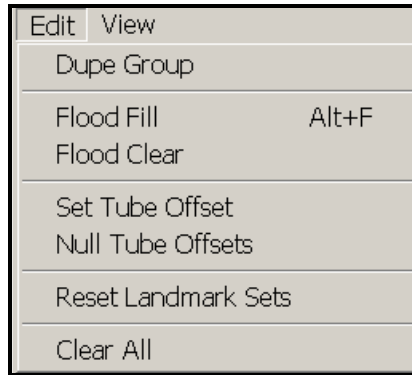

Figure 41. Edit Menu in the Adding Group Dialog
As shown in Figure 41, the **Edit** menu on the **Adding Group** dialog contains seven (7) choices. Each item is explained below.
- ❑ **Popup | Reset Landmark Sets:** This feature simply *resets* all tubes to their originally assigned landmark sets. This same selection is available on the **Edit** menu in Figure 41. Using the **Set Landmark Set** feature discussed in the previous topic, users can assign existing or create new landmark sets for a single tube, individually selected tubes, group(s) of tubes, sections, or whole tubesheet maps. **Reset Landmark Sets** on the **Popup** menu provides a way to reset all landmark sets to the way they were originally assigned in the **Group Parameters** dialog (Figure 37) when each group was *built*.